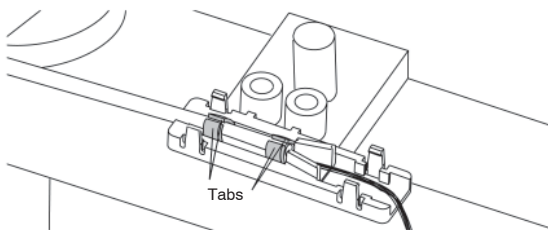

Figure 12
6.9 Use pliers to gently bend the crimps tabs over the end of the buffer tube (Figure 12). Check the crimp for effectiveness by gently pulling on and twisting the tube – the tube should not move.